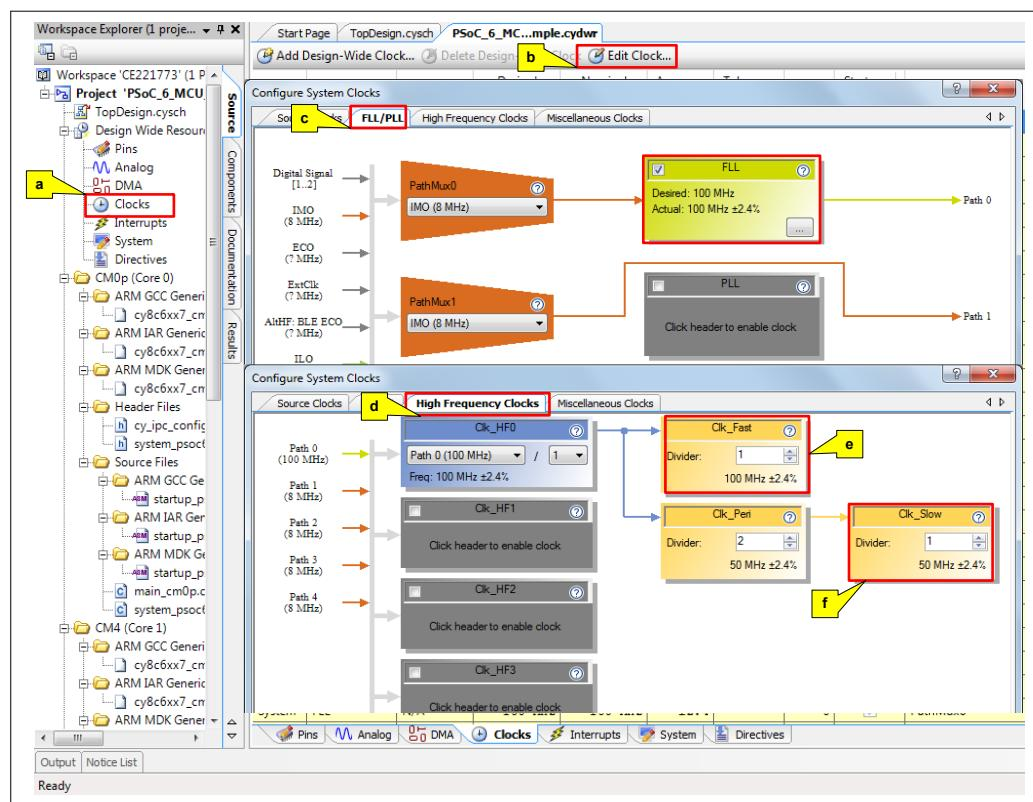

Figure 49 **Clock configuration**
- f. You can set the CM0+ CPU clock by setting the divider in **Clk_Slow**. By default, the divider is set to 1. See Figure 49